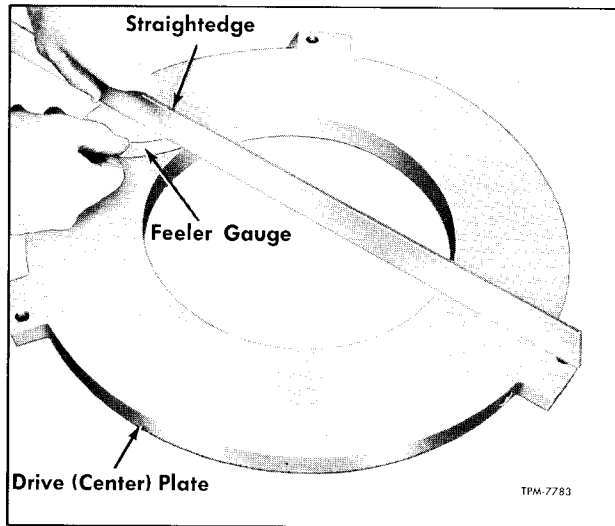
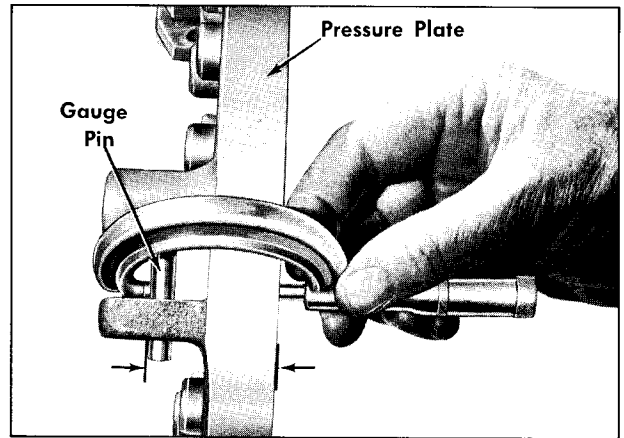

Figure 15—Checking Center Plate for Flatness
Figure 16—Measuring Pressure Plate Thickness
3. Inspect pressure plate, center plate, and flywheel plate for checks and scores on contact surface. For refacing of pressure plate, see "Pressure Plate and Flywheel Clutch Plate Repair" under "Repair" later in this section. Check fit of center plate drive lugs in flywheel slots. Dimensions for parts are given in "Specifications" at end of this section. Check surfaces at pressure plate, center plate, and flywheel plate for warpage using straightedge and feeler as shown in figure 15.
The clutch pressure plate, center plate, or flywheel plate may be refaced by grinding to produce a flat smooth surface. Do not reface parts which are severely heat checked or scored, or if warped in excess of 0.015 inch (fig. 15). If necessary to grind off more than 1/32 inch from pressure plate or flywheel plate to clean up friction surface, new parts should be used at assembly. Before repair of plates is attempted, measure each plate and compare dimensions with new dimensions as listed in "Specifications" at end of this section. Figure 16 shows use of micrometer to check pressure plate thickness. This is necessary to determine if plates have previously been resurfaced.
New Pressure Plate Thickness (Friction Surface to Pin—Fig. 16)	1.739"-1.750"